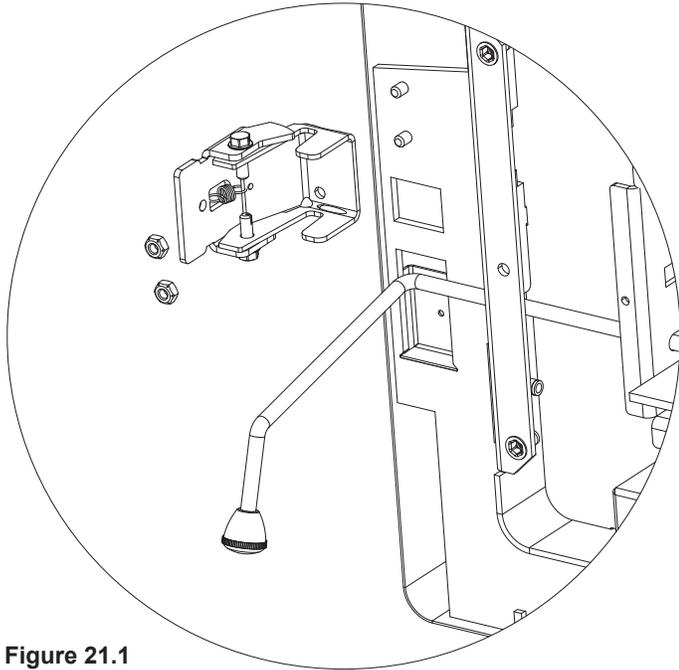

Figure 21.1
9. Install ARS latch by sliding latch assembly over 2 threaded studs protruding from the bottom on the left hand side of the appliance. Secure by using two nuts use 7/16 socket wrench (**Figure 21.1 on page 21**).